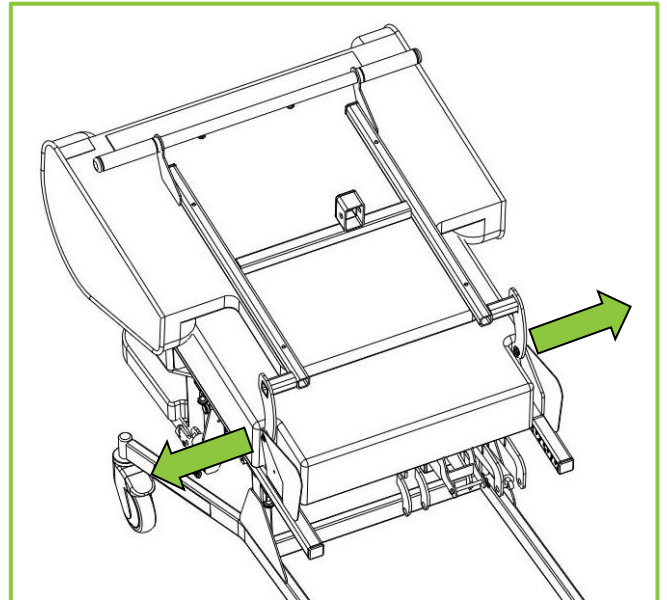

Figure 12
7. Remove the bolts, washers, and nuts from both hinges with 5mm Allen key and 13mm spanner (Figure 12) and lift off the backrest. Retain the fasteners to use with the postural backrest.